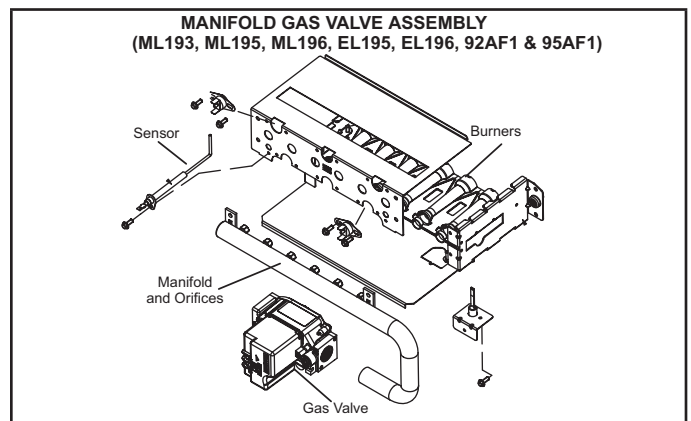

FIGURE 5
- 5 - Replace the burner orifices with the provided gas orifices. Torque to approximately 35 in-lbs. Do not use sealant on orifices. Figures 5 and 6 show manifold/gas valve assembly.